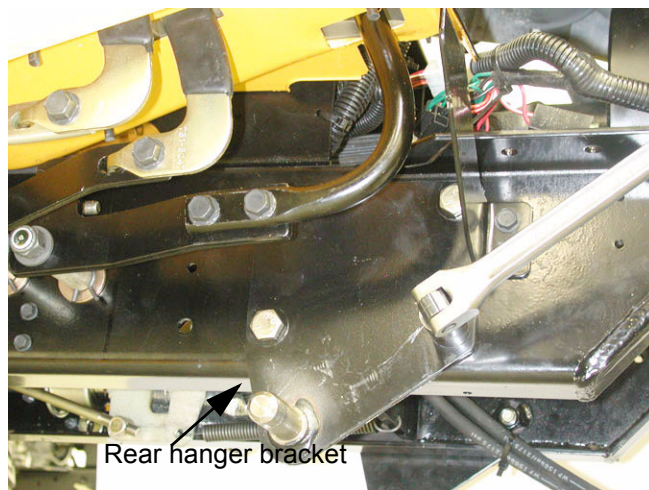

Figure 1.8
- 1.8. Attach the rear hanger brackets (left and right) to each side of the tractor frame. The pin on each bracket should face outward, near the lower rear corner of the bracket. See Figure 1.8.